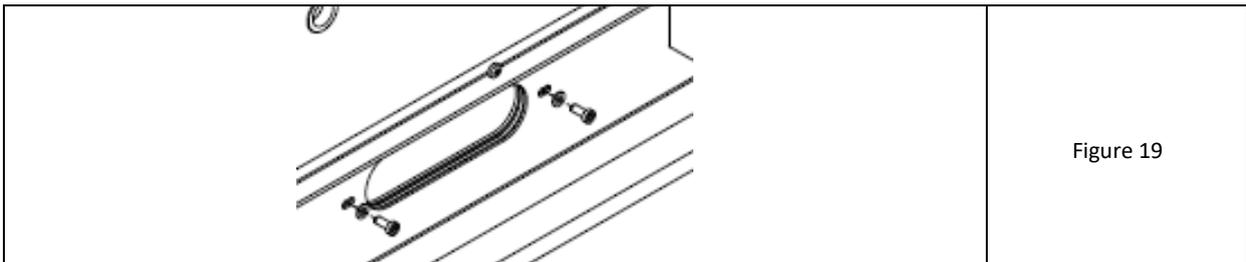

Figure 19
4. In addition, tighten M5x12 socket head cap screws at both ends of the beam drain. Place an A5.3 flat washer under the bolt head (fig.19).